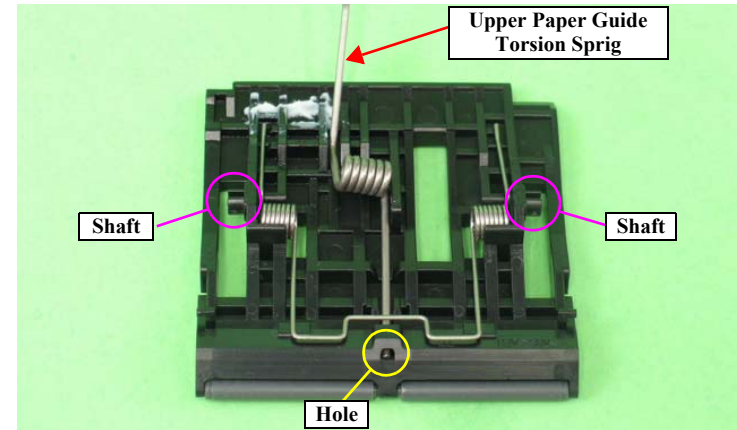

Figure 4-114. Installing the Upper Paper Guide Torsion Spring
- Lift the six Upper Paper Guide Assys from the Main Frame to release the shaft (See Figure 4-114), and remove the Upper Paper Guide Assys to the rear.